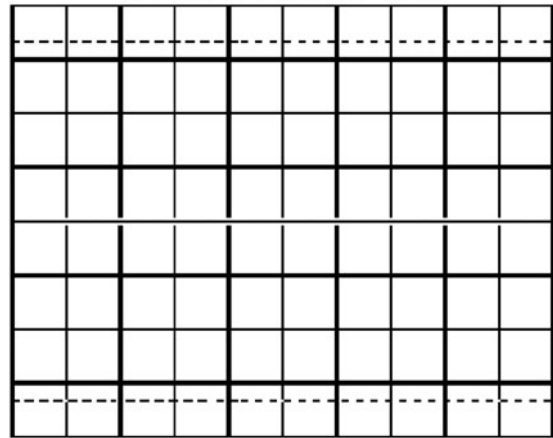

Figure L59-2
- Draw a representation of your whistle signature onto the scope face provided in Figure L59-2.